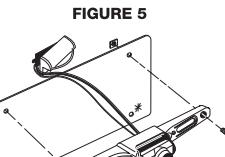

FIGURE 5
2. To accommodate the thickness of the **RVC1R**, the kit includes (2) longer License plate bolts. Insert the 2 license plate bolts (either the original vehicle bolts or the new longer bolts) through the **RVC1R** bracket first, then license plate and reattach to the vehicle (see Figure 5).